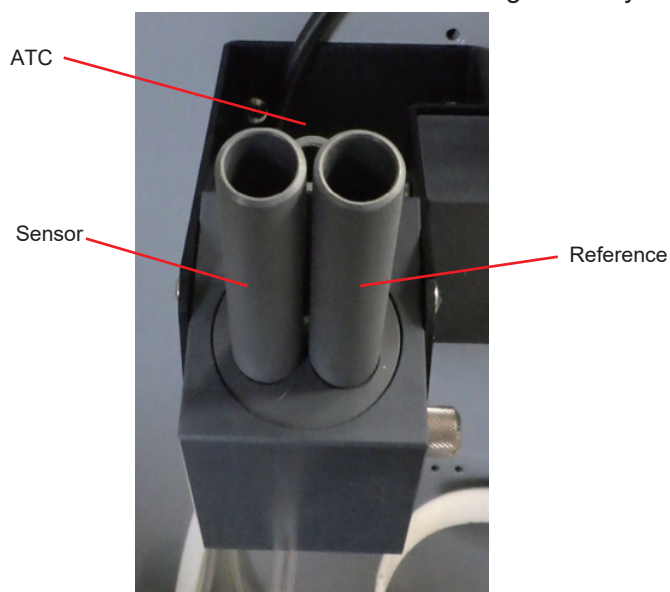

Figure 2.8 Flow Cell Cap
2. Insert the Iodide electrode into its port in the flow cell cap. Refer to Figure 2.8 for the location. Installation in the incorrect hole will cause calibration issues.
1. Insert the ATC probe into its port in the flow cell cap. Refer to Figure 2.8 for the location.
11. Insert the reference electrode into its port in the flow cell cap. Refer Figure 2.8 for the location.